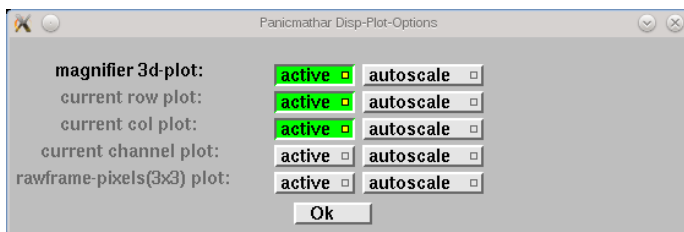

Figure 21: Auxiliary options after pressing the **plot** button in the main display GUI, Fig. 15.
- **plot** Plots cuts and surfaces through the current image on the display. An auxiliary GUI as in Figure 21 appears. This button is disabled if **gnuplot** was not found at compile time (Section 2.1.5).
y-axis scale is taken from the current cuts of the main display. This may be changed with the `autoscale` options in Figure 21.) The channel is selected by the current position of the cursor.